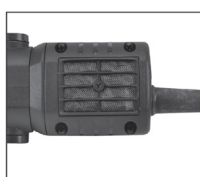

Fig.5
- Clean the air intake (Fig. 5). There is an air intake in the rear cover. After 2-3 days of use, open the cover, use a dry brush to remove debris and dirt that has accumulated on the air intake to keep it clear and clean. A cloth or brush carrying oil or water must not be used to clean the air intake as it may cause a short circuit or damage to the tool.